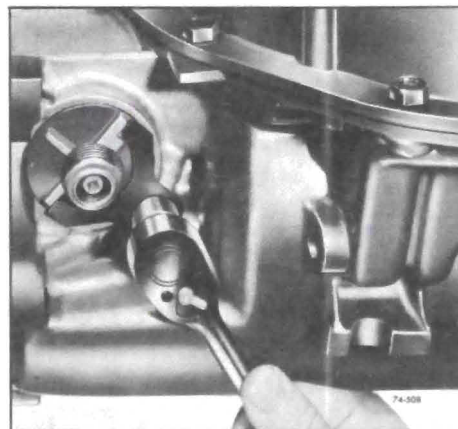

Figure 76-509
3. Remove speedometer driven gear attaching bolt and retainer. See Figure 76-509.